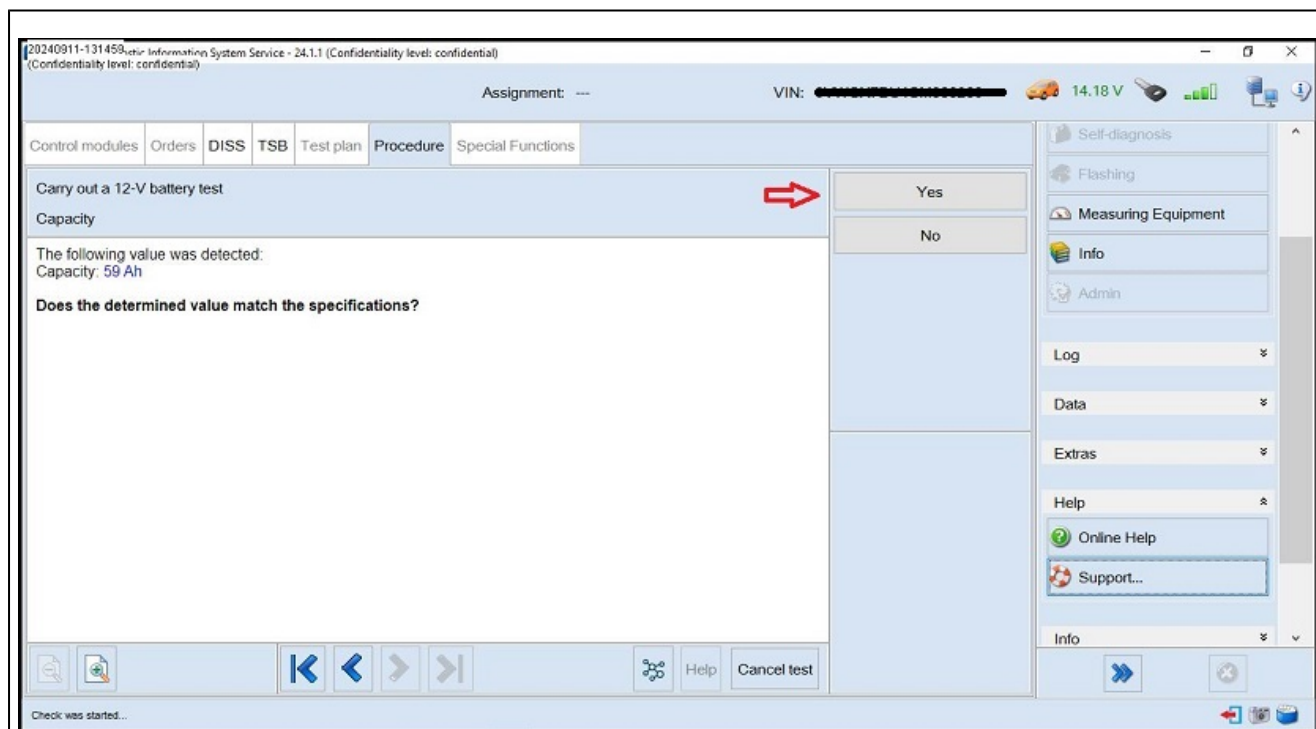

Figure 4.
4. Validate the capacity of the battery is correct. If it is select Yes (Figure 4).